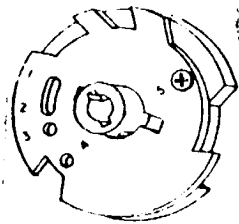

Fig. 1A
Narrow Column: There are five (5) adjustable positions on the adjustable cam for the Vend Motor. See Fig. 1A for DNCB T, or for DNCB T Series 90 venders see Fig. 1B.
Example: To set for 12 oz. Cans: Tighten screw into #1 position at extreme end of slot (high) for DNCB T, Fig. 1A, or for DNCB T Series 90 venders rotate cam to position #1, Fig. 1B.
To set for 16 oz. NR PLB: Tighten screw into #5 position for DNCB T, Fig. 1A, or for DNCB T Series 90 venders rotate cam to position #5, Fig. 1B.
If when vending 10 oz. PLB in the Narrow Column, the need arises for the vend motor to run longer, secure the screw in the adjustable cam at position #2 for DNCB T, Fig. 1A, or for DNCB T Series 90 venders rotate cam to position #1, Fig. 1B.